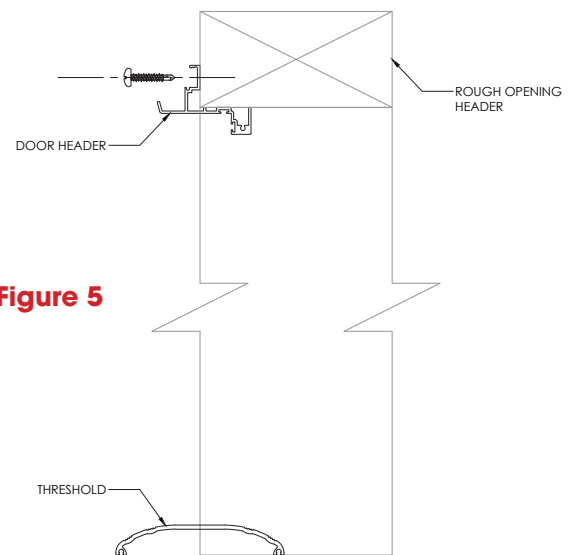

Figure 5
8. Finish attaching the header by screwing through pre-punched holes in facing of rail into jamb with #6 x 1" color matched screws (provided). **See Fig. 5.**